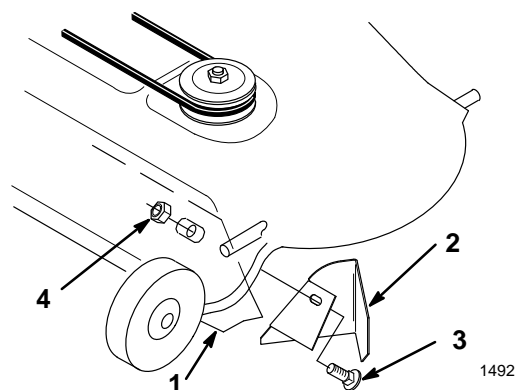

Figure 4
3. On 42" decks, secure with a 3/8 x 1" (25mm) carriage bolt, 13/32" washer and 3/8" lock nut (Fig. 4).